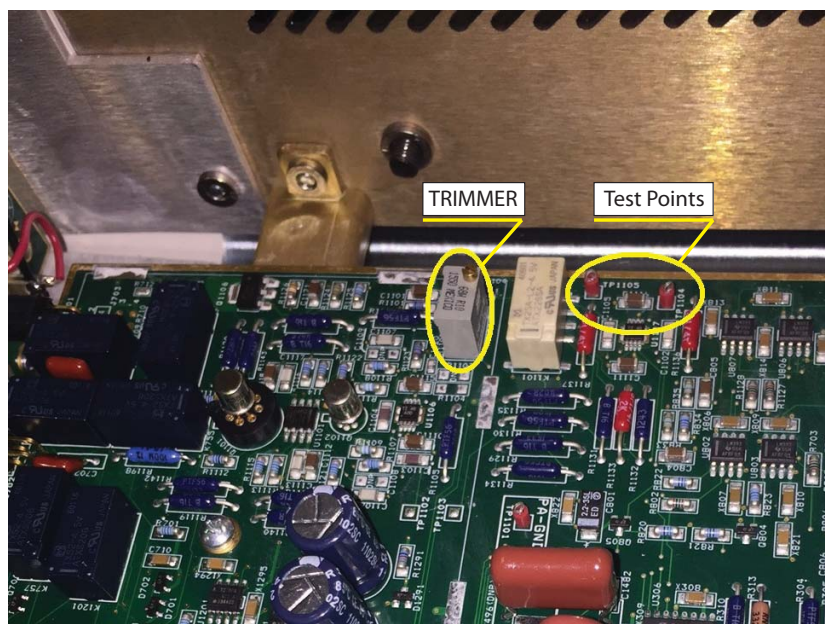

Figure 5.3: Trimming the replacement JFET
8. Attach the voltmeter test leads to Test Points TP1104 and TP1105 (see Figure 5.3). Slowly adjust trimmer R1102 to null the voltage between TP1104 and TP1105. You should be able to reduce the voltage to $< 5\ \text{mV}$.